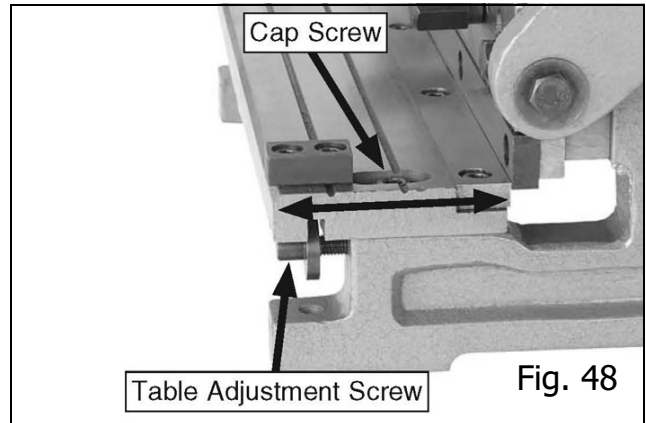

Fig. 48
1. Loosen the cap screws on either end of the shear table that secure it to the machine (see Figure 48).